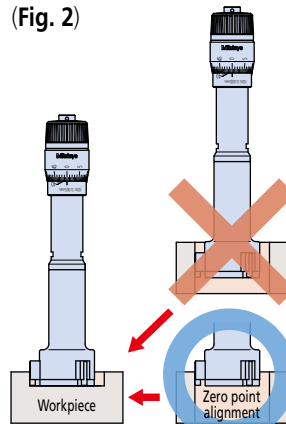

Fig. 1
4. If measuring using only the tip of the anvil, make sure to set the zero point at the same position of the tip. **(Fig. 1)**